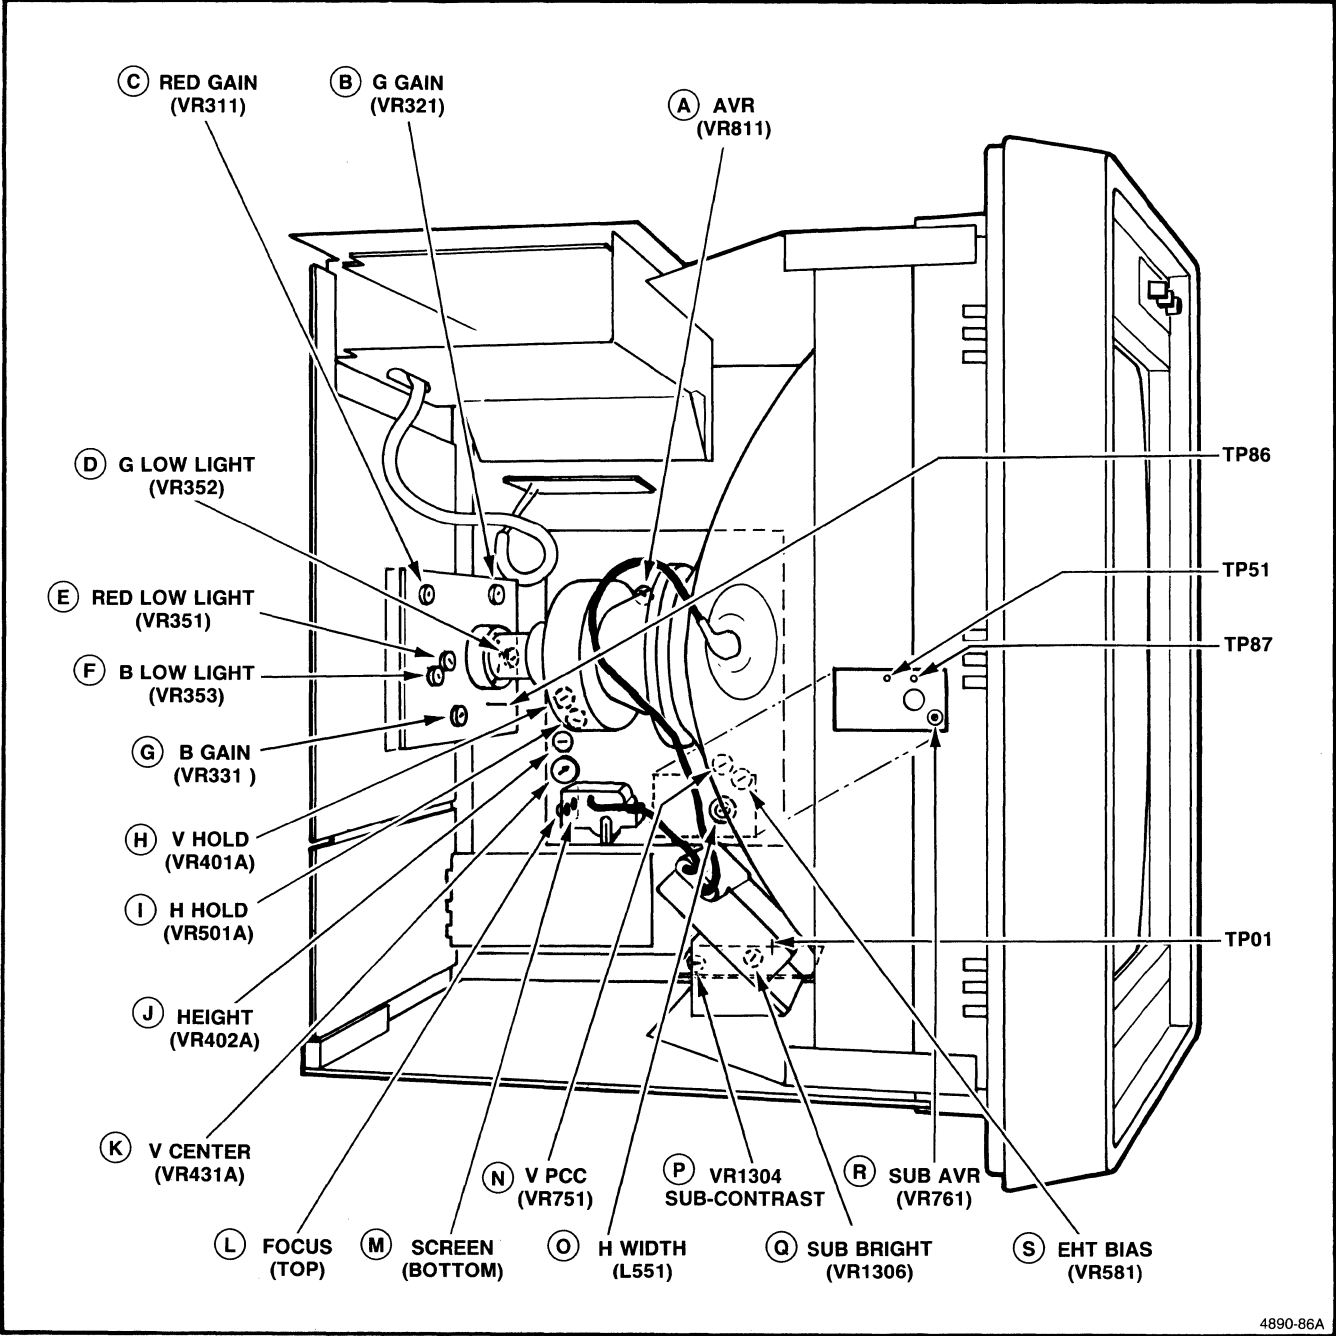

Figure 5-11. 119-2023-00 Display Module Test Points and Adjustments.
All test points and adjustments for the 119-2023-00 Display Module are shown in Figure 5-11 (on page 5-17).
2. Adjust VR811 on the Main board (labeled AVR — **(A)** in Figure 5-11) for a reading of + 101 V \pm 2 V at TP86.
4. If necessary, adjust VR761 (labeled SUB AVR, **(R)** in Figure 5-11) for a reading of 98 V at TP87.
The horizontal hold procedure is first, followed by vertical hold. Figure 5-11 shows the locations of the H HOLD and V HOLD adjustments, VR501A (Ⓘ) in Figure 5-11) and VR401A (ⓓ) in Figure 5-11); these are on the Main board.
- B GAIN (VR331 — ⓐ) in Figure 5-11)
3. Set VR352 (G LOW-LIGHT — ⓓ) in Figure 5-11) to mid-position.
11. Increase VR353 (B LOW-LIGHT — **G**) in Figure 5-11) to provide a blue-green screen. Ignore the retrace lines.
12. Increase VR351 (R LOW-LIGHT — **E**) in Figure 5-11) to provide a gray screen. Ignore the retrace lines.
13. Decrease G2 (SCREEN — **L**) in Figure 5-11) until the illuminated raster is almost extinguished.
4. Adjust VR402A (labeled HEIGHT — **J**) in Figure 5-11) so the top and bottom of the grid pattern match the graticule (27 cm — refer back to Figure 5-7A). Adjusting VR402A clockwise increases the height of the pattern, and adjusting VR402A counter-clockwise decreases it.
5. Adjust L551 (**O**) in Figure 5-11) so the sides of the grid pattern match the graticule (36 cm — refer back to Figure 5-7B). L551 is accessible through a hole in the circuit board above it. Use a non-metallic screwdriver (1/8" flat-blade) to adjust L551. Turning the knob on this control counter-clockwise increases the width of the pattern, and turning the knob clockwise decreases it.
3. Adjust the FOCUS control (the upper of the two knobs on the high voltage assembly — (L) in Figure 5-11) to achieve the best overall screen focus when viewing the displayed pattern. Also, display some alpha characters on the screen and verify that the focus remains good (you'll have to exit Self Test to do this).
Check for 420 V p-p \pm 20 V at TP51 on the EHT board. If necessary, adjust VR581 (labeled EHT BIAS — (S) in Figure 5-11) to obtain the correct reading.